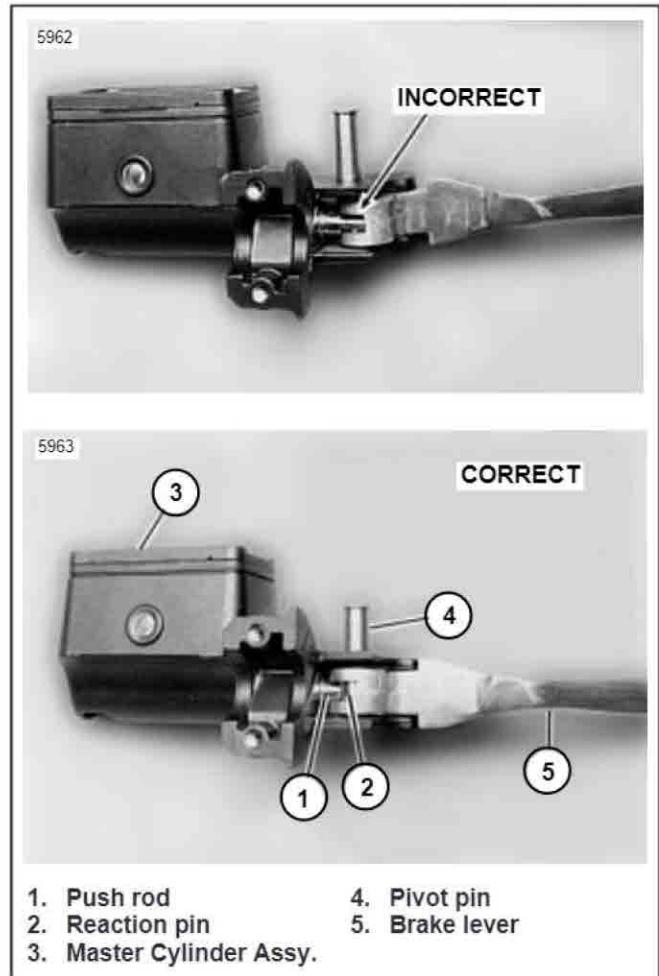

Figure 1. Brake Lever Assembly
1. See Figure 1. Lightly coat reaction pin (2) with Loctite ANTI-SEIZE and insert it into the large hole in the brake lever (5).
2. Assemble the brake lever to the master cylinder assembly (3) using pivot pin (4) and retaining ring. Make sure push rod fits into hole in reaction pin.
See Figure 1. Ensure that push rod (1) is inserted into hole in reaction pin (2). There must not be any binding of the hand lever when depressed. If hand lever does bind, push rod is hitting the inside master cylinder wall. Binding of the hand lever can result in an inoperable front brake.